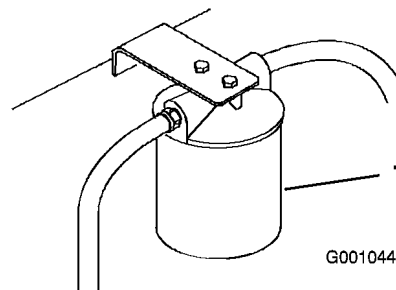

Figure 56
3. Place drain pan under filter, remove the old filter and wipe the filter adapter gasket surface clean (Figure 56).